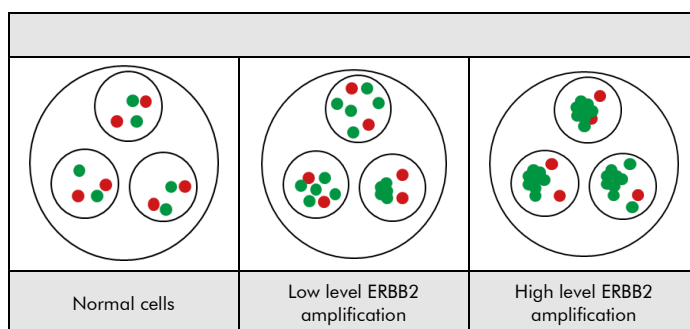

Fig. 2: Expected results in normal and aberrant nuclei
**Normal situation:** In interphases of normal cells or cells without an amplification involving the ERBB2 gene region, two distinct dot-shaped green signals and two distinct dot-shaped red signals appear (see Fig. 2).
**Aberrant situation:** In cells with an amplification of the ERBB2 gene region, an increased number of green signal or green signal clusters will be observed (see Fig. 2).